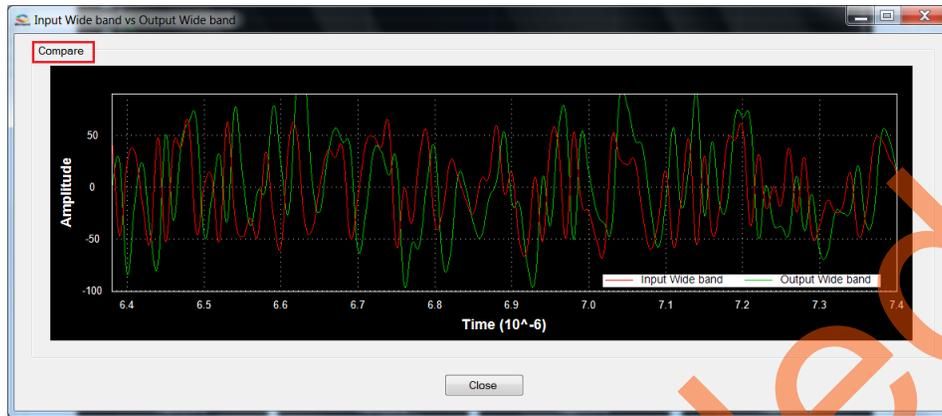

Figure 25 • Comparison of Input Wide Band and Output Wide Band
- Compare the Error signal (Output Wide band signal) with the Input Wide band signal, refer to Figure 25. You can see that the narrow band interfering component is eliminated and the wide band signal is preserved in Error signal.